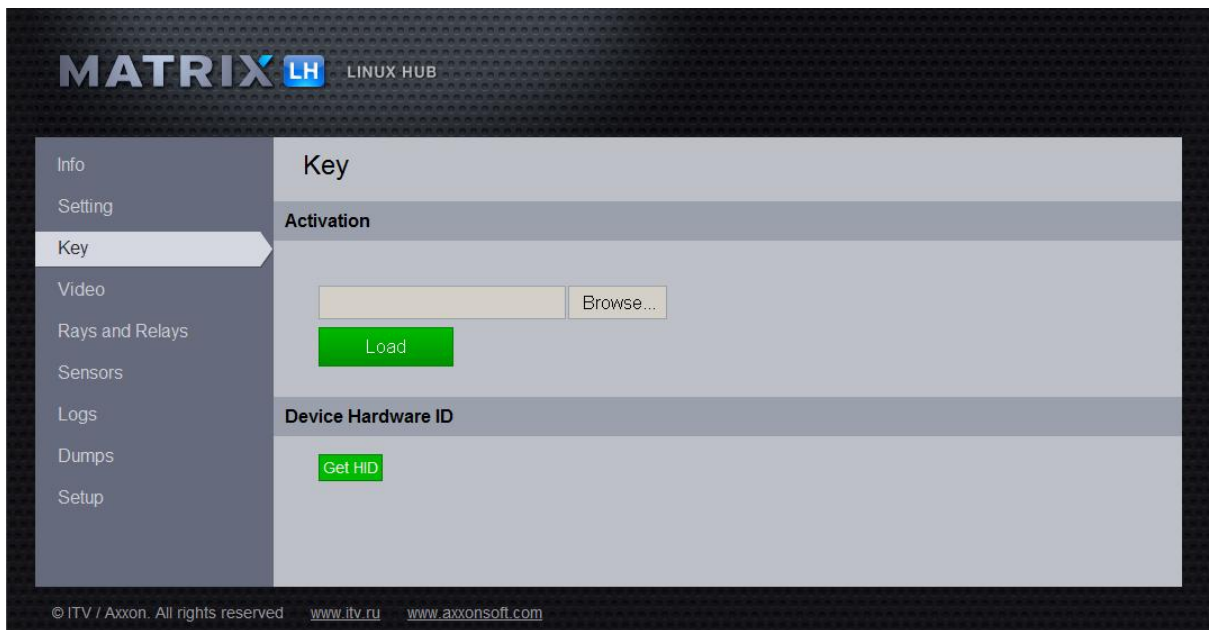

Figure 7.3-8 Downloading the activation key to the LS (LH)
The following operations are performed in the **Key** tab (Figure 7.3-8):
To download the activation key to the LS (LH) do the following (Figure 7.3-8):
4. As a result the intellect.sec (video.sec) activation key is saved on the LS (LH) in the \etc\itv\ directory;
5. Restart the LS (LH).